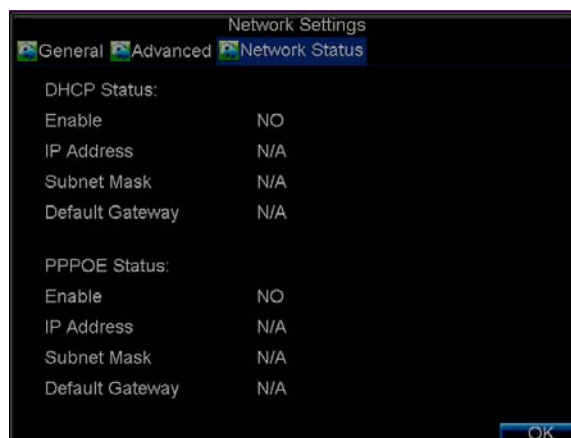

Figure 2. Network Status
3. If you have a DHCP server running and would like your DVR to automatically obtain an IP address and other network settings from that server, check the **DHCP** checkbox. You may check the DHCP status by going to the **Network Status** tab, as shown in Figure 2.